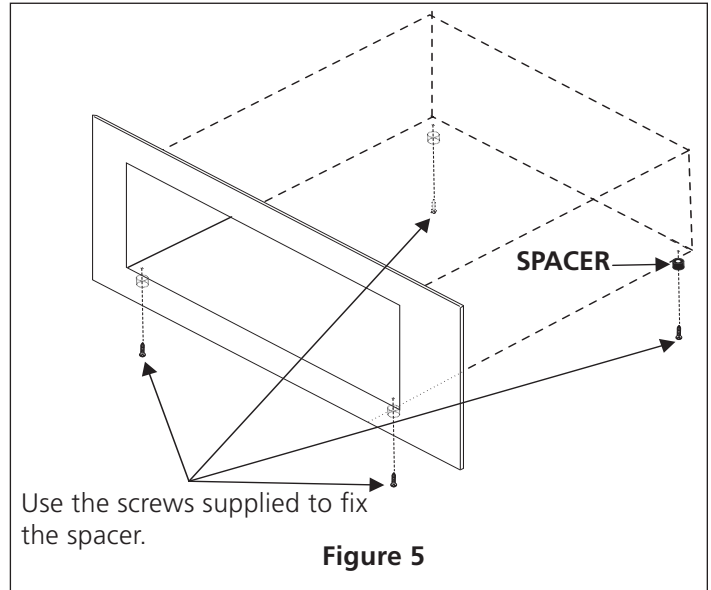
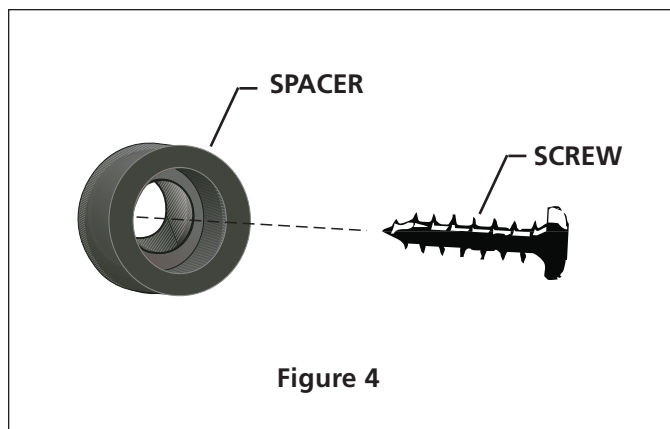

Figure 5
Figure 4
2. Install the 4 spacers (Figure 4) supplied under drawer as shown in figure 5 using the 4 screws (10-24 X 5/8"). Install two spacers on each side of drawer.